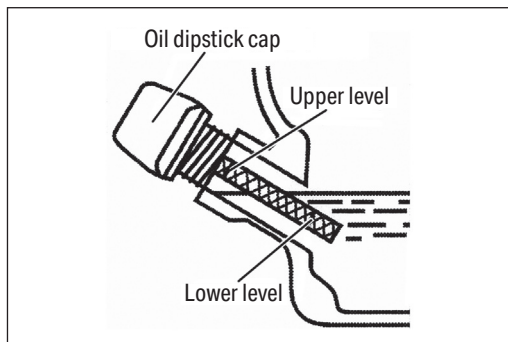

Fig. 5
3. Wipe the dipstick clean and re-insert it into the oil reservoir (Fig. 5).